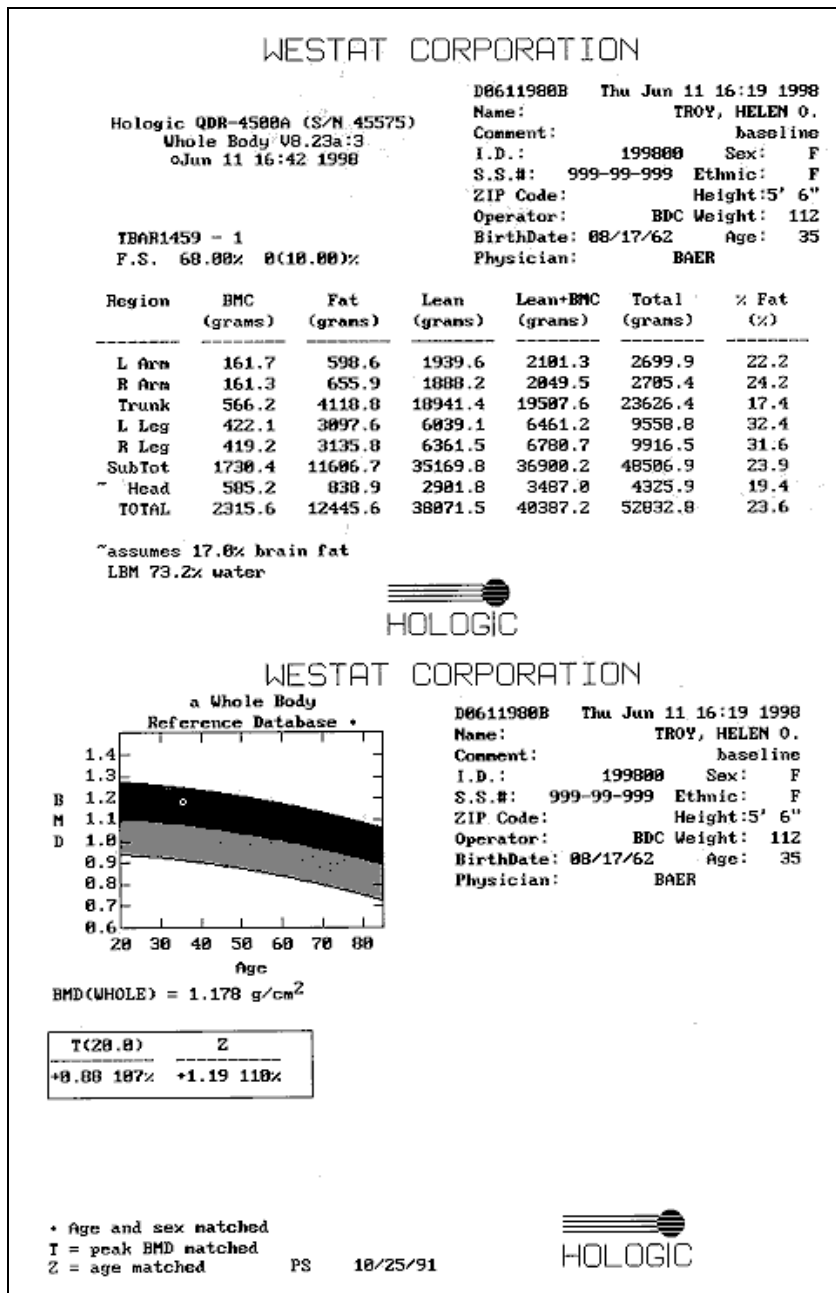

Figure 3-13. Data displayed after analysis (2)
- Figure 3-13 displays the bone mineral density (BMD) for the SP. In addition, the box below the graph gives the T-score and the Z-score for the BMD for this SP.